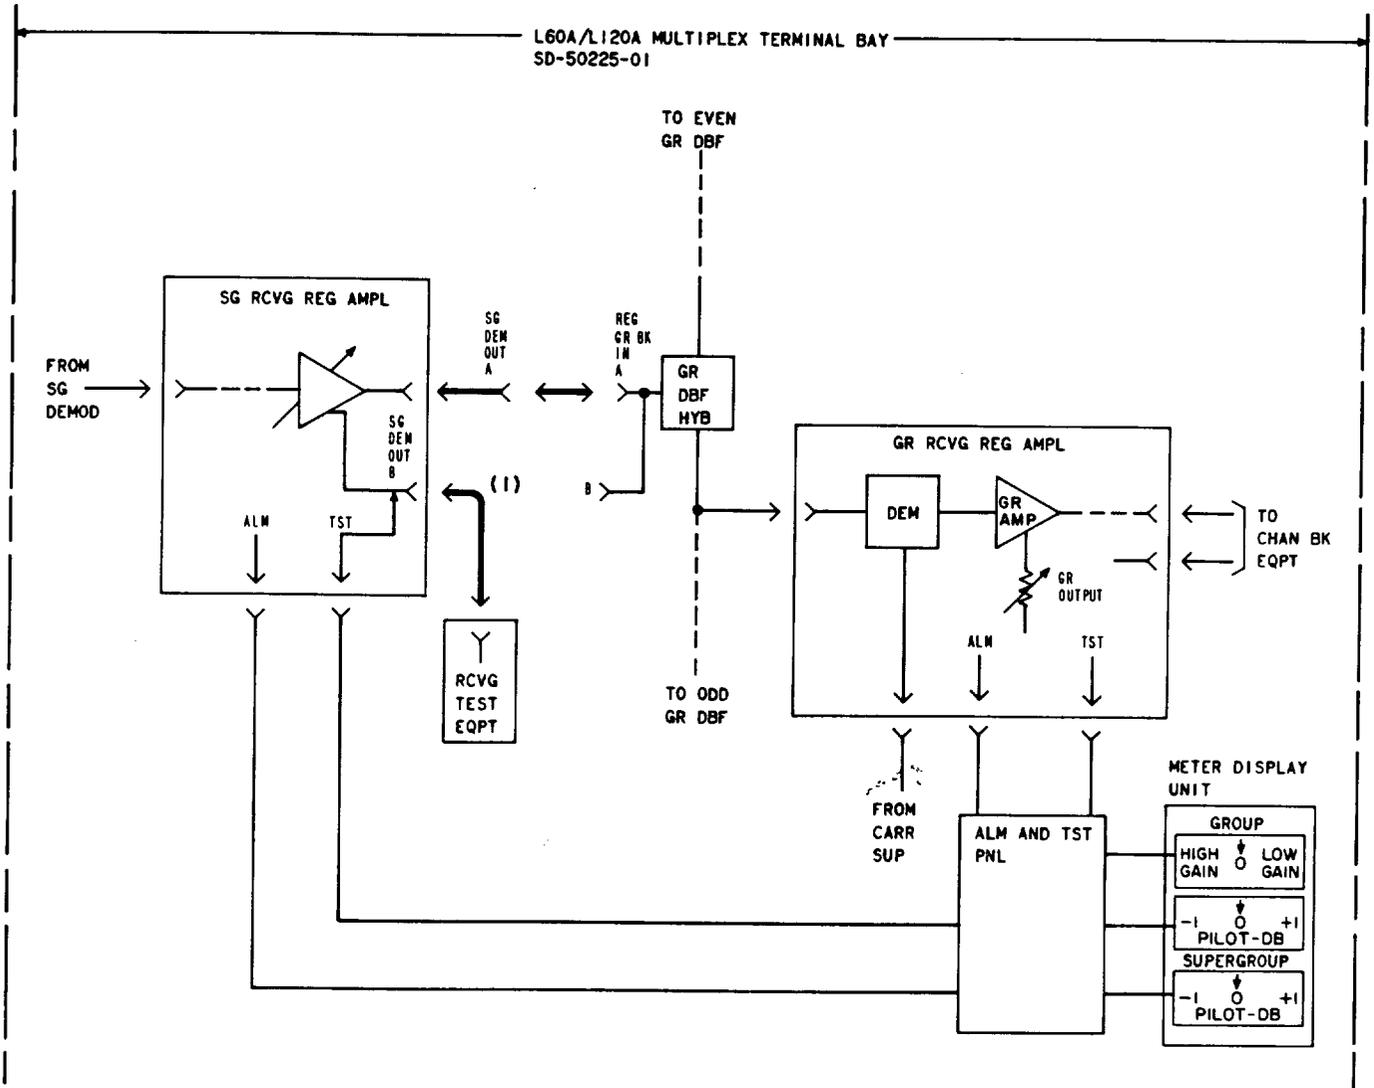

Fig. 1—L60A/L120A Multiplex Terminal Receiving Circuits—Group Demodulator In-Service Gain Adjustment
<p>Note: In these tests it is assumed that the group pilot and group gain measuring circuits meet calibration requirements. Refer to Section 356-294-501 (group pilot) and Section 356-294-502 (group gain), if necessary.</p> <p>A. Input Test</p> <p>1 Position the alarm and test panel selector switch to the supergroup and group to be tested.</p> <p>2 Read the SUPERGROUP PILOT-DB meter.</p> <p>Requirement: $\pm 0 \pm 0.1$ dB.</p> <p>3 If the requirement of Step 2 is met, proceed to Step 4. If it is not met, perform tests as prescribed in Section 356-283-501.</p> <p>B. Gain Test</p> <p>4 Read the GROUP PILOT-DB meter.</p> <p>Requirement: $\pm 0 \pm 0.1$ dB.</p> <p>5 If the requirement of Step 4 is met, proceed to Step 7. If it is not met, slowly adjust the GR OUTPUT control on the associated group regulated amplifier for a reading as close to zero as possible, but in no case outside the ± 0.1 dB limit.</p> <p>Note: Allow approximately 15 seconds after each readjustment to permit the regulator to stabilize.</p> <p>6 If the requirement of Step 4 cannot be met, remove the group demodulator under test from service and make tests as prescribed in Section 356-284-502.</p> <p>7 Read the GROUP GAIN meter.</p> <p>Requirement: ± 2 dB HIGH GAIN to 2 dB LOW GAIN.</p> <p>8 If the requirement of Step 7 is met, proceed to Step 14. If it is not met, proceed as follows for the group demodulator under test.</p> <p>Group 1: Remove the associated group receiving bank from service and make tests as prescribed in Section 356-284-502.</p> <p>Groups 2 through 5: Verify that the input pilot level requirement for the group demodulator under test is met. Proceed to Step 9.</p> <p>9 Set up and calibrate the receiving test equipment for a 75-ohm terminated measurement of -48 dBm at the input pilot frequency listed in Table A for the group demodulator circuit under test.</p> <p>10 Make patch designated (1) in Fig. 1.</p>
13	<p>Remove patch designated (1) in Fig. 1.</p>